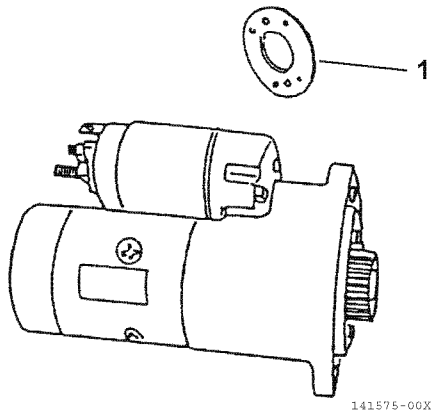

Figure 11-34
5. If the measured L dimension is outside the standard range, adjust the dust covers to obtain the standard range. Dust covers (1, Figure 11-34) are available in 0.020 in. (0.5 mm) and 0.031 in. (0.8 mm) thicknesses.